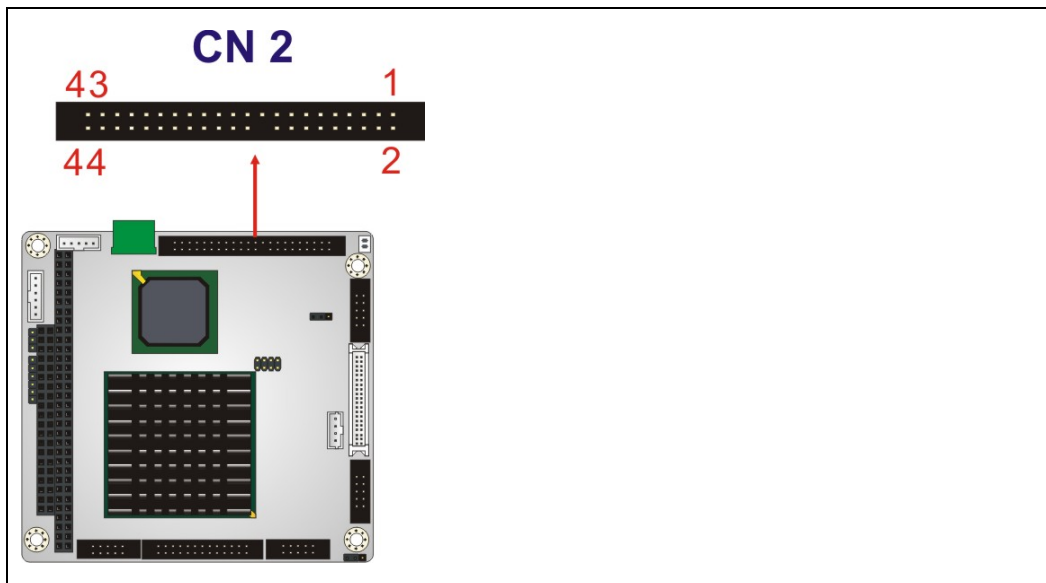

Figure 3-9: Primary IDE Device Connector Location
- CN Location:** See **Figure 3-9**